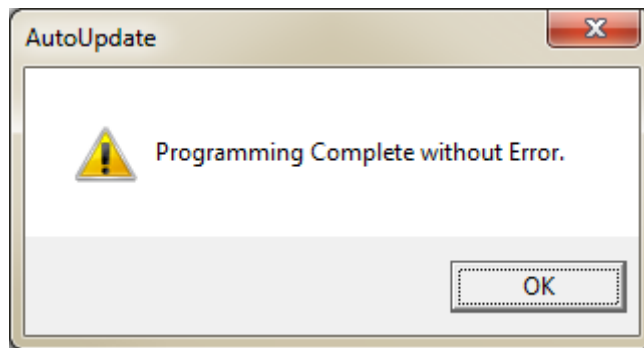

Figure 23. AutoUpdate Complete Screen
7. After above figure automatically closes, Figure 23 will be displayed. Click the OK button and now the uploading firmware process is completed.